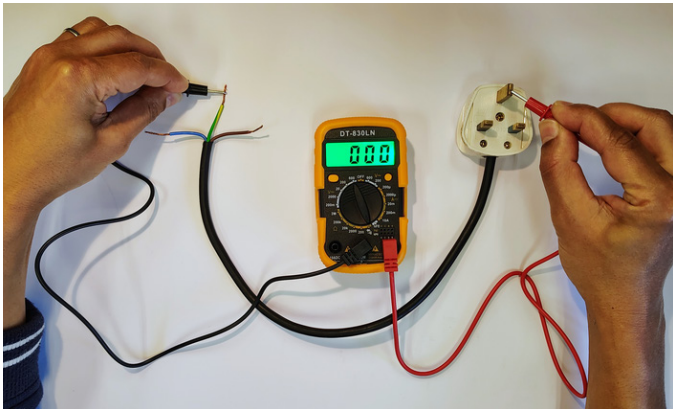

Figure 6
1. Touch one probe to the earth pin on the plug (on the top of the plug) as shown in **Figure 6**.